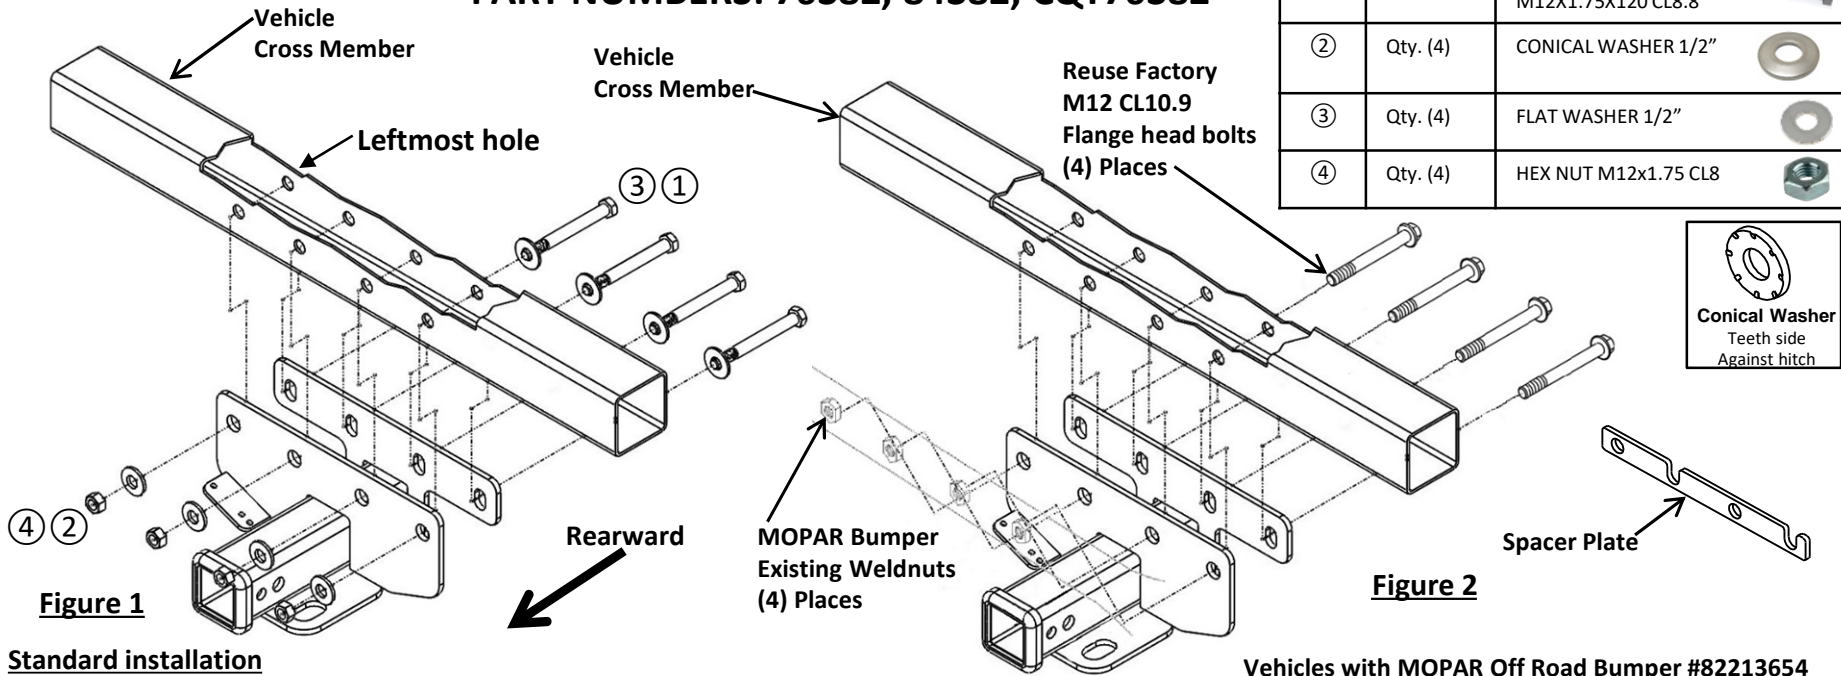

Figure 1
1. Lower muffler (for standard model) or diesel canister (for EcoDiesel model) – Using exhaust removal pliers, lower muffler if required (standard model). Using 16mm socket, remove (2) 10mm bolts from diesel canister (EcoDiesel model). **Note:** Be sure to support exhaust before removing rubber hangers.
2. Install hitch – (a) Raise hitch onto the vehicle cross member at a 15° - 45° angle and align leftmost hole in hitch with existing hole in cross member. (b) Loosely install (1) M12 bolt ①, (1) 1/2" flat washer ③, (1) 1/2" conical washer ②, and (1) M12 hex nuts ④ to hold hitch in place. (c) Using 18mm crowfoot wrench and open end wrench, install and secure all fasteners to the hitch, see **Figure 1**. **Note:** Gently pull downward on diesel canister for extra clearance.